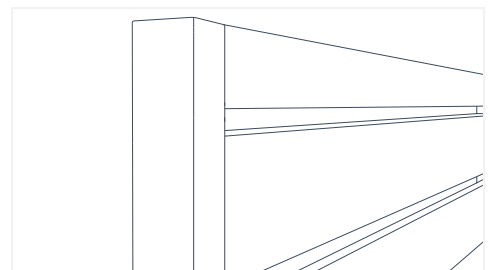

Fig. 35
17. Overlap the 3/4" vertical J Trim on top of the Top Cap trim to achieve an aesthetically pleasing corner intersection (Fig. 35).